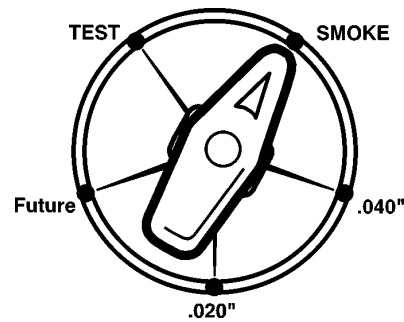

Figure 8
2. Position the selector valve on the tester to SMOKE. See Figure 8.